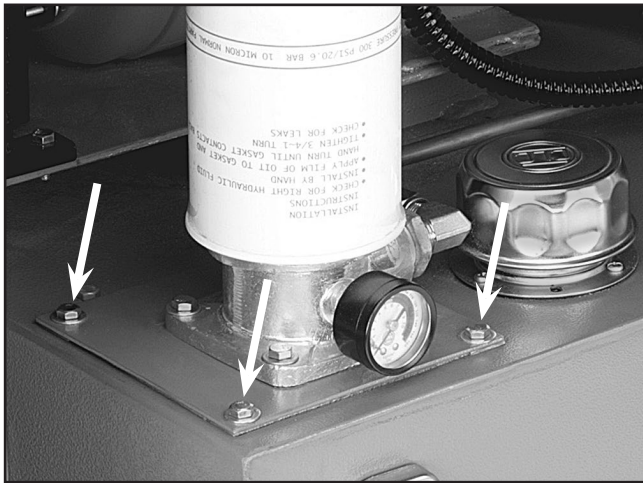

Figure 51. Tank access plate.
2. Remove the access plate bolts shown in **Figure 51**.